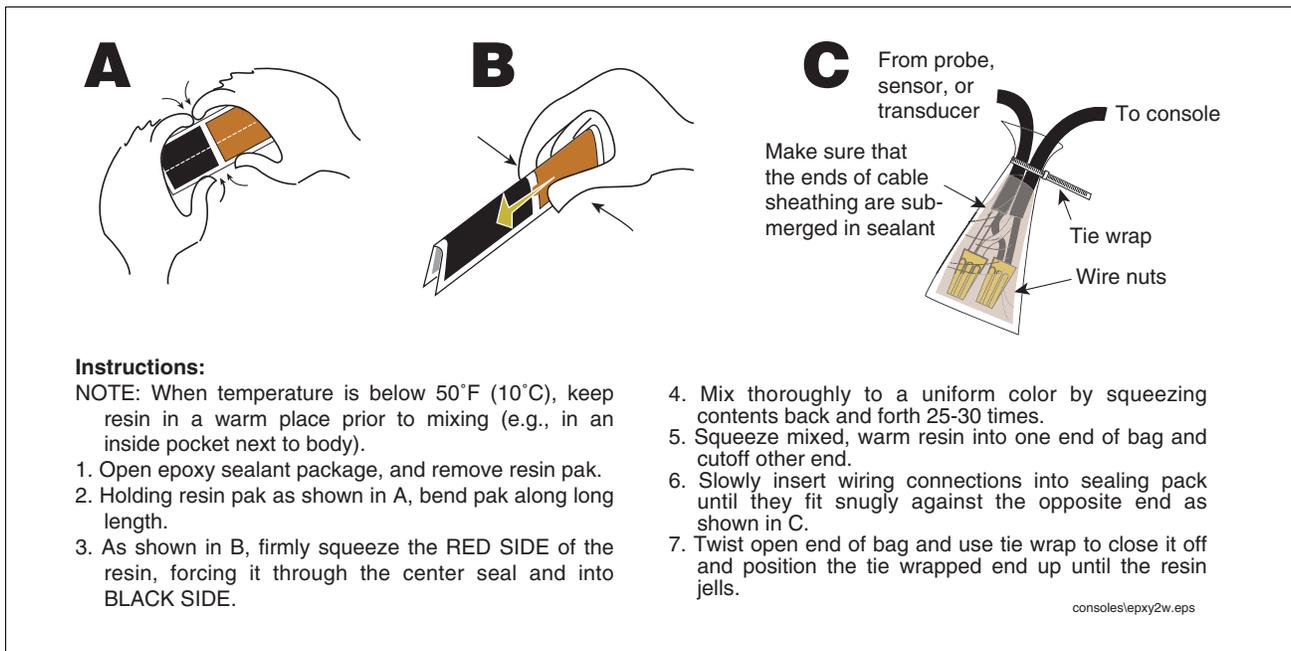

Figure 5. Epoxy sealing field wiring
1. Seal wire nuts with epoxy sealant following the instructions in Figure 5.